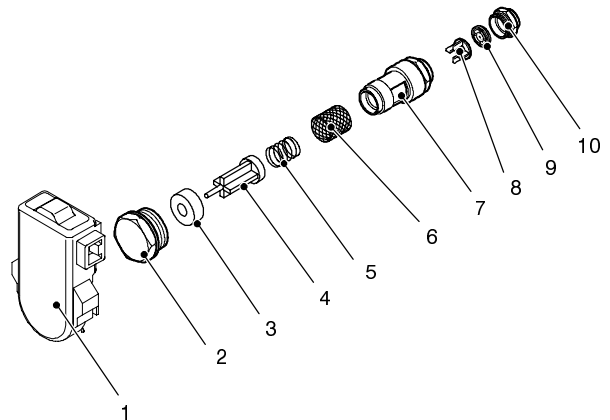

Fig. 59
When the flow rate through the d.h.w. circuit reaches about 2,5 litres/min', the float 4 (Fig. 59) is drawn towards the right.
14.2 Nomenclature and location of parts (Fig. 59)
- 4 Unscrew the plug 2 (Fig. 59) and extract the flow switch group.
- 5 To remove the filter from the flow switch group separate the body 7 from the plug 2 (Fig. 59) by unscrewing it.
Attention: the ring 3 (Fig. 59) has a magnetic polarity and must be correctly coupled with the spindle of the float 4.
- 2 Unscrew the threaded ring 10 (Fig. 59) and remove it from the body 7.